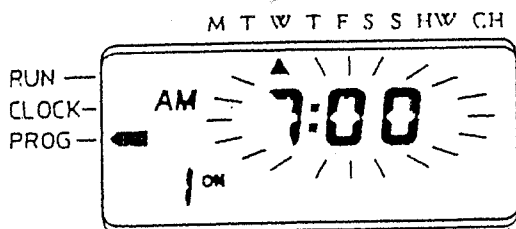

Fig. 8.
- (b) The display will now show "1 ON" and the first ON time for that day will flash (Fig. 8).